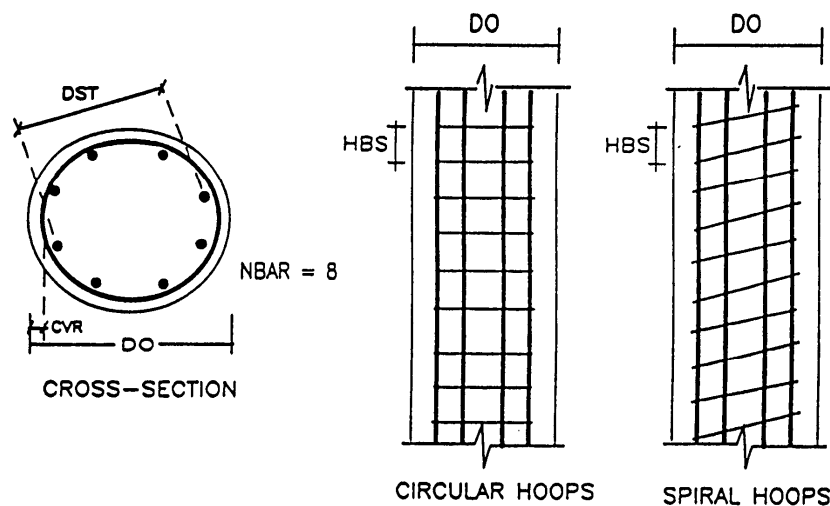

Fig. A-7 Circular column Input Details
**SET D2:** ICTYPE = 3; *Circular Column Input Data Set* (SEE FIGURE A-7)